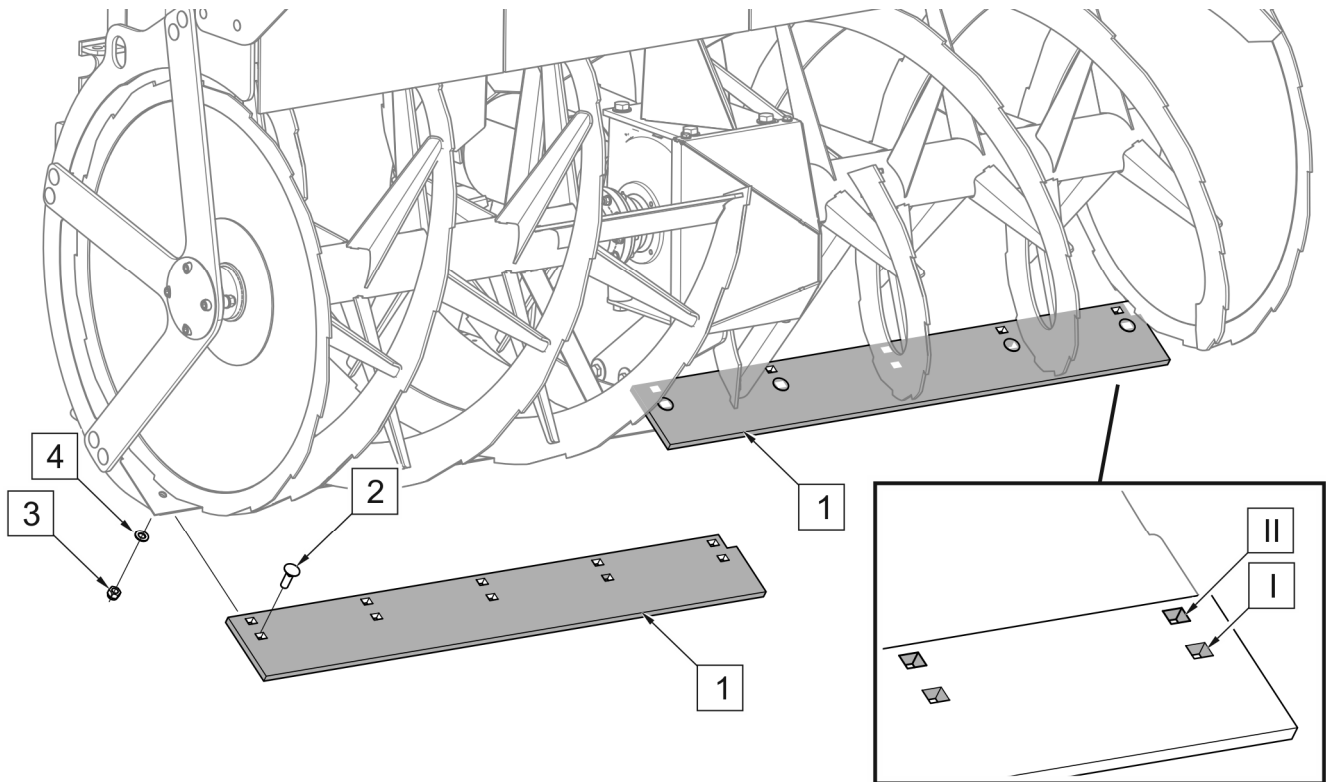

FIGURE 5.3 Replacing the collecting blade
Snow blower is equipped with two collecting blades (FIGURE 5.3). If the blade edge is excessively worn, install the blades in holes (II). If the blade is excessively worn or damaged, it should be replaced with a new one. The list of blade elements TABLE 5.2.